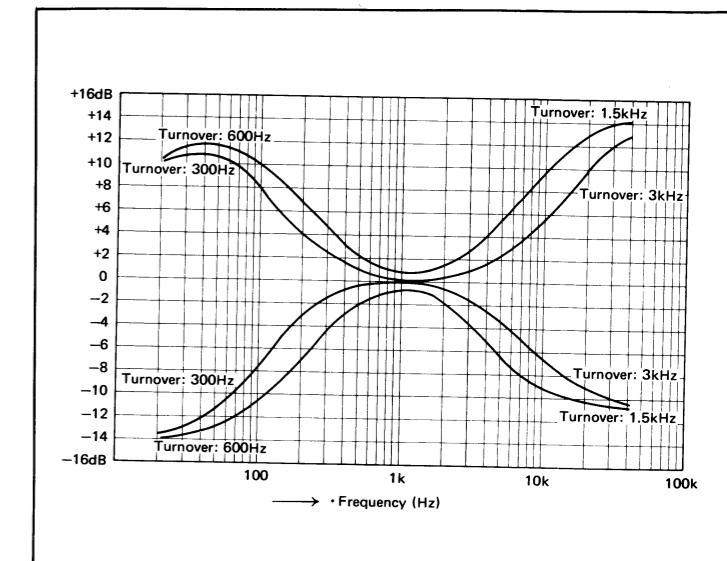

Figure 7
■ TONE CONTROL CIRCUIT (See Figure 7 and 8)